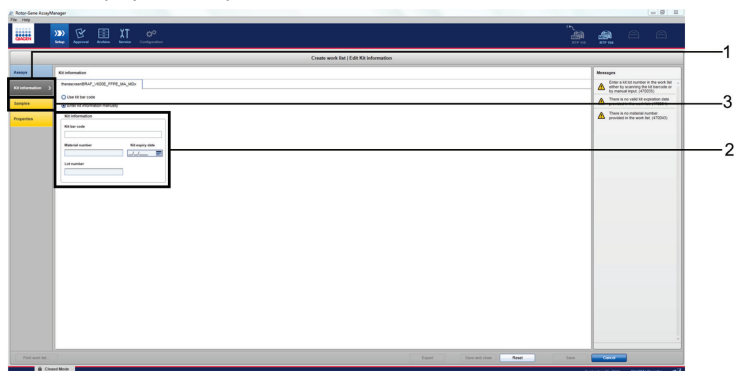

Figure 18. “Create work list” window on the “Kit information” tab. 1 = “Enter kit information. 2 = Kit information. 3 = “Samples” tab.
3. Click the “Kit information” tab and enter the following kit information (Figure 18):